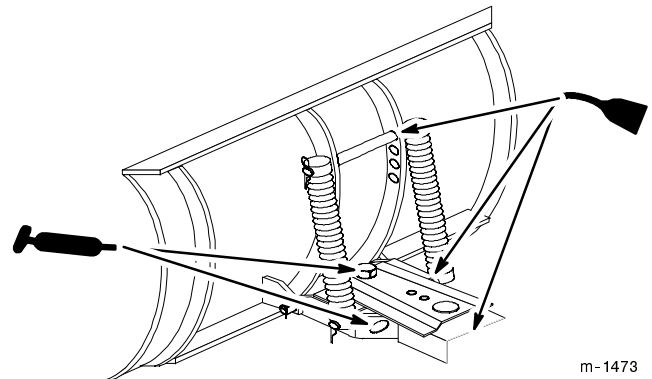

Figure 16
3. Clean the area around the channel pivot with a rag. Apply grease to the pivot bolt, frame and sector (Fig. 16).
2. Place a few drops of oil on all movable linkages (Fig. 16).